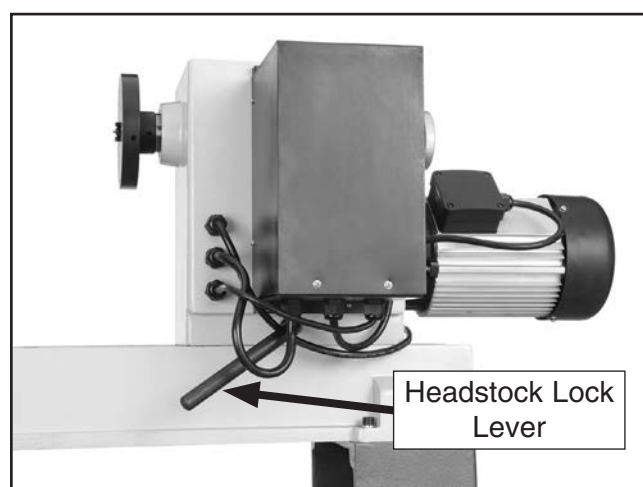

Figure 16. Headstock lock lever location.
2. Loosen headstock lock lever (see **Figure 16**).